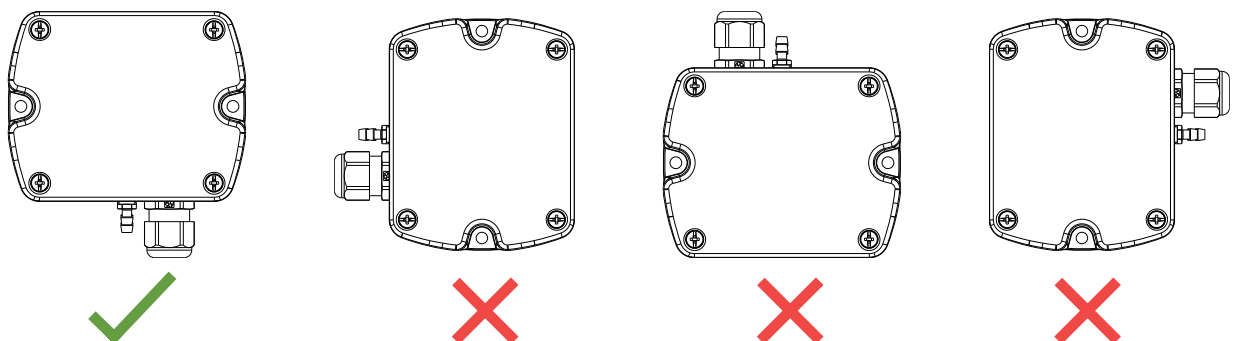

Fig. 4 Mounting orientation
1. Mount the sensor in the correct position. Pay attention to the alignment (refer to Fig. 4 Mounting orientation).